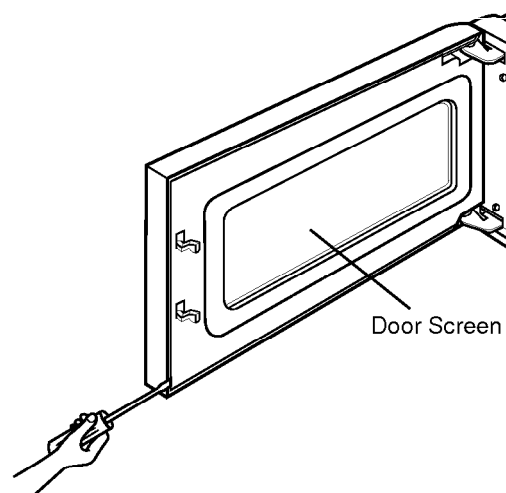

Figure 25
**H. DISASSEMBLING DOOR (Figure 25)**
- (1) Remove the dielectric choke by using knife blade or small screw driver, etc.
- (2) Remove two screws securing it to the door handle.